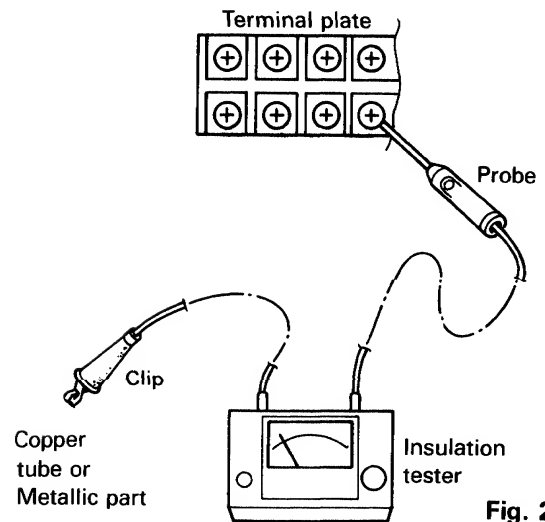

Fig. 2
Clamp the aluminum plate fin or copper tube with a lead clip of the insulation resistance tester and measure the resistance by placing a probe on ①, and then ② on the terminal plate. (Fig. 2)
Clamp the metallic part of the unit with a lead clip of the insulation resistance tester and measure the resistance by placing a probe on ②, and then ③ on the terminal plate. (Fig. 2)